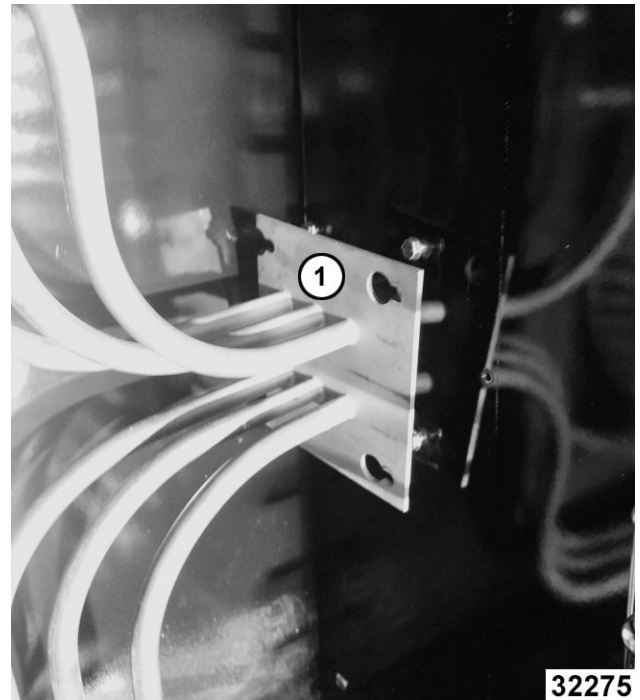

Fig. 20
8. Slide element mounting plate (1, Fig. 20) over to release from cavity wall and remove elements from oven.